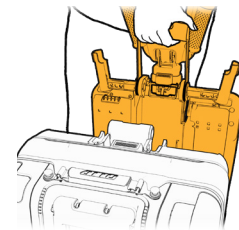

Figure 52
4. Carry the front chassis from the handlebar and separate from the back chassis (see Figure 52).